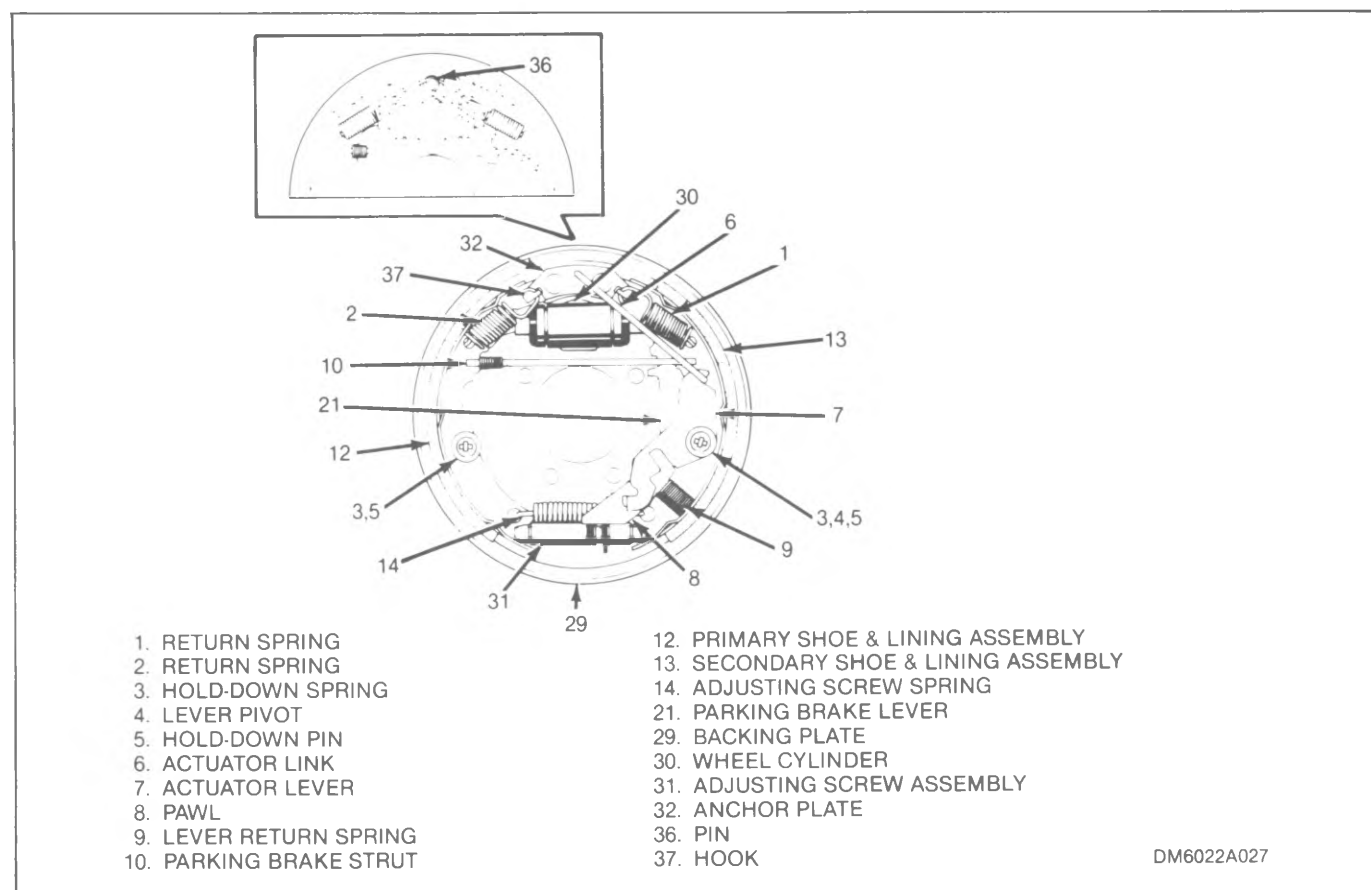

Figure 3-3. Anchor Plate Duo-Servo Drum Brake
3-5. ANCHOR PLATE DUO-SERVO DRUM BRAKE (See figure 3-3). This type brake has an anchor plate (32) attached to the backing plate (29). The anchor plate may have hooks (37) or a pin (36) attaching the return springs (1 and 2). The wheel cylinder (30) is attached to the backing plate with a retainer. Refer to paragraph 3-21 for removal and replacement of shoe and lining and brake hardware.